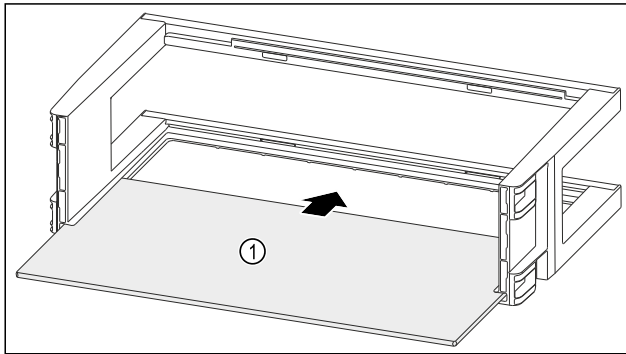

Fig. 137
- ▶ Push the shelf Fig. 137 (1) into the side recesses.